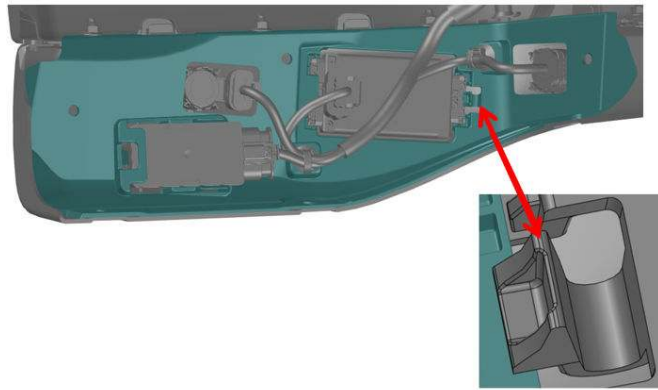

Fig. 7
8. Remove the MRR bracket Fig. 7.